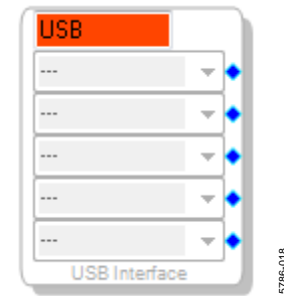

Figure 18. USBi Not Detected by SigmaStudio
- b. When SigmaStudio cannot detect the USBi on the USB port of the PC, the background of the **USB** label is red (see Figure 18). This error can occur when the USBi is not connected or when the drivers are installed incorrectly.